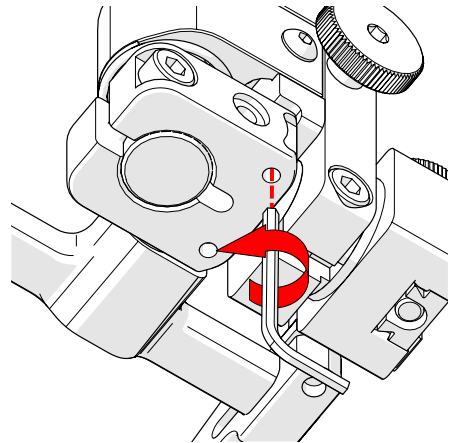

Fig. 110 - Lower 90° stop post
7. Locate the recessed M3 screw (stop post) on the bottom of the probe holder. Unscrew the stop post using a 1.5 mm hex wrench until it has cleared all obstructions. Do not remove the stop post (Fig. 110).